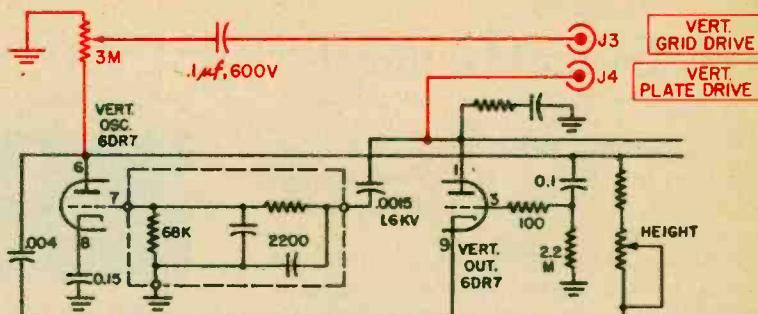

Fig. 4—Part of Philco schematic (black) shows vertical-oscillator and vertical-output stages. Added parts (on test panel) are shown in color.
3. **Vertical grid output (Fig. 4).** This signal localizes the symptom of no-vertical sweep to the area of the trouble in the vertical-oscillator vertical-output area.
4. **Vertical plate output (Fig. 4).** This signal answers the question, "is the trouble in the vertical-output transformer or yoke